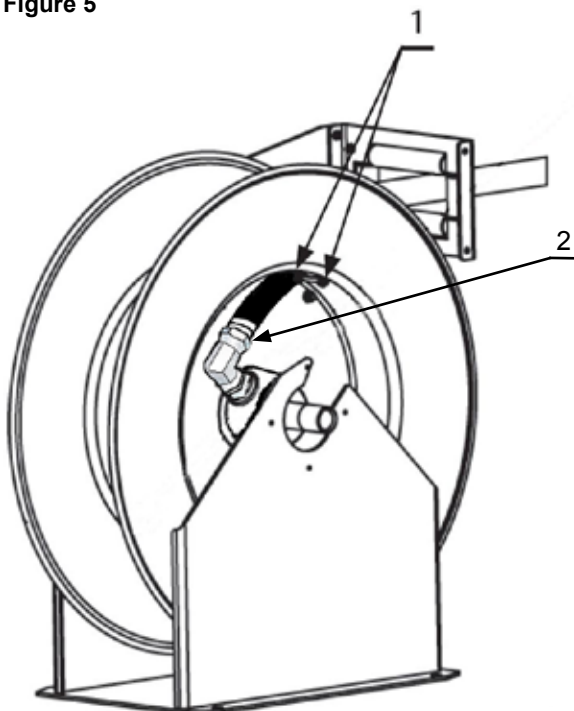

Figure 6
4. Disconnect and remove service hose U-bolt by loosening nuts (1) and disconnect hose from the 90° adapter (2) (figure 6).